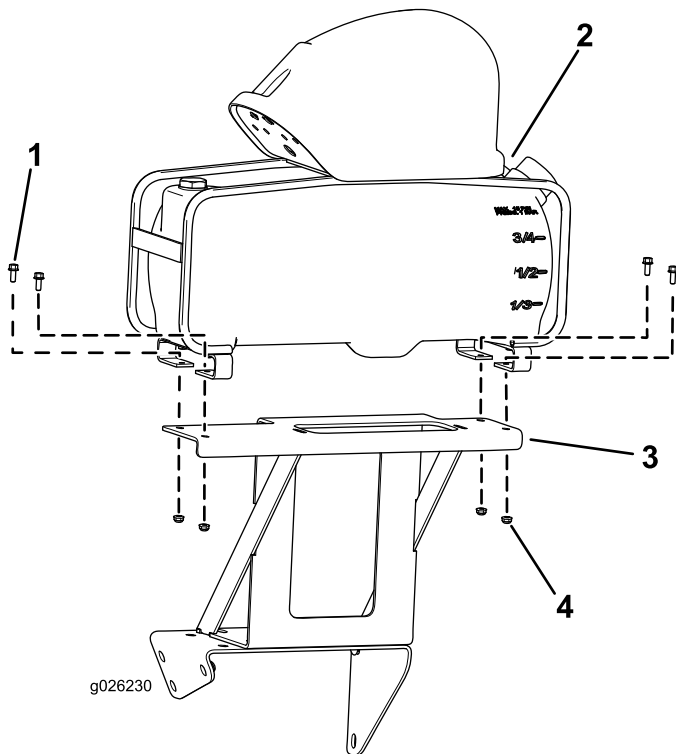

Figure 3
- Secure the foam marker to the bracket using the 4 hex-head bolts (1/4 x 0.62 inch) and 4 locknuts (1/4 inch) as shown in Figure 3.